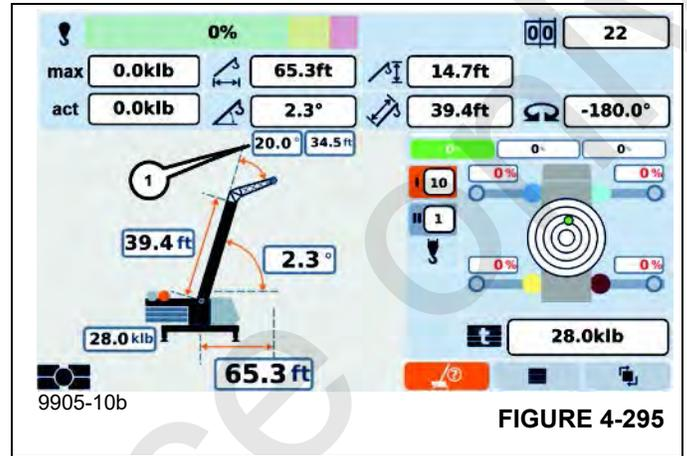

FIGURE 4-295
- **Lifting/lowering lattice extension:** Shows the current lattice extension angle (1), (Figure 4-295) in relation to the main boom in degrees.
- **Lattice extension, can be angled:** Shows the angle of the lattice extension corresponding to the RCL code in degrees (1), (Figure 4-295).